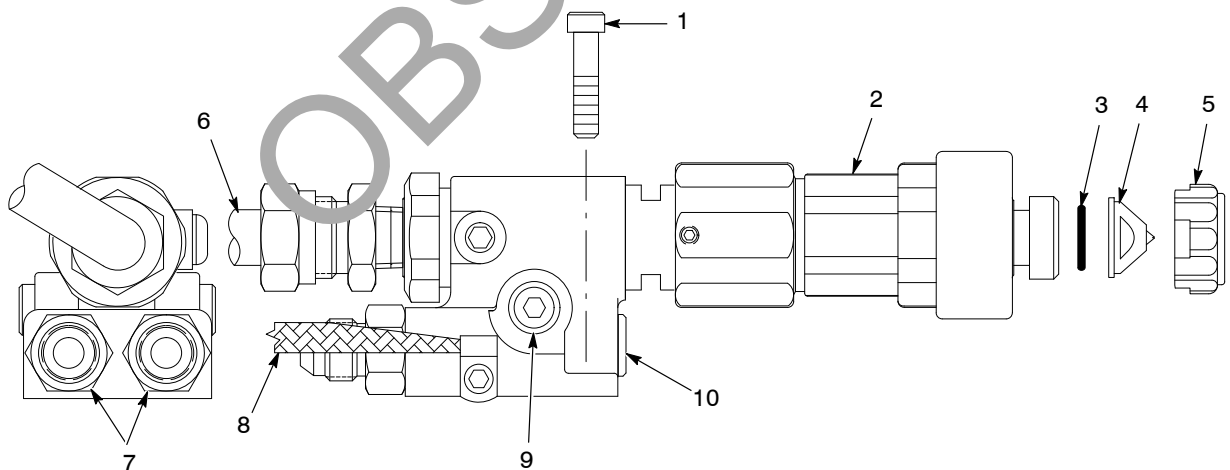

Figure 2 Installation
See Figure 2.
See Figure 2. Connect the fluid inlet and outlet hoses to the fluid fittings (7). Either fitting may be used for the inlet. The fittings are 1/2-20 37° JIC.
See Figure 2. Remove the nozzle nut (5) from the spray gun (2).
See Figure 2. Remove a plug and O-ring (9) from one side of the manifold and replace it with a pressure transducer. The port on either side of the manifold can be used. Tighten the transducer securely.
See Figure 2. Remove the plug and O-ring (10) from the front of the MEG gun and install a CO-plate in the manifold. Tighten the CO-plate securely.